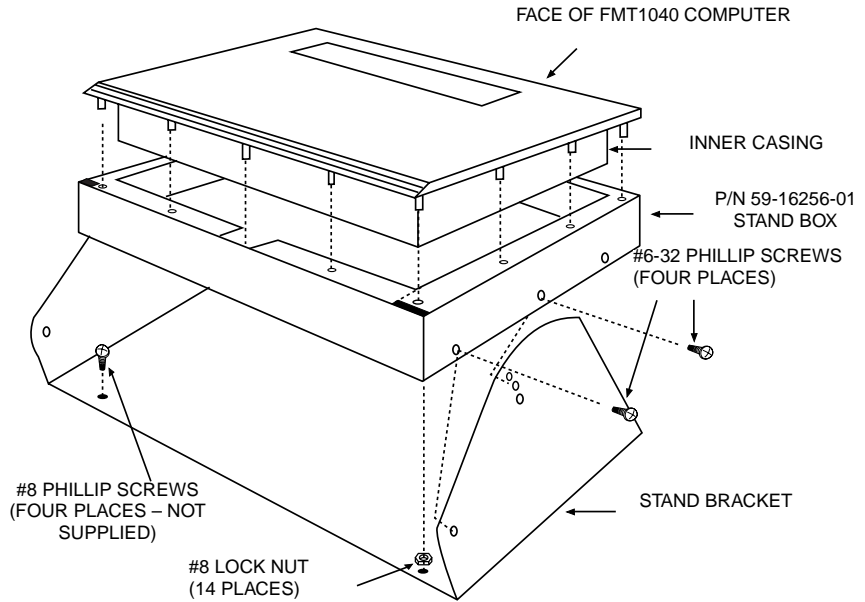

Figure 1-5. Three-Dimensional View of FMT1040 and Wall/Desk Stand
1. Slide the FMT1040 into the tilt box making sure the rounded upper corners of each part and threaded posts are aligned. (See Figure 1-5.)